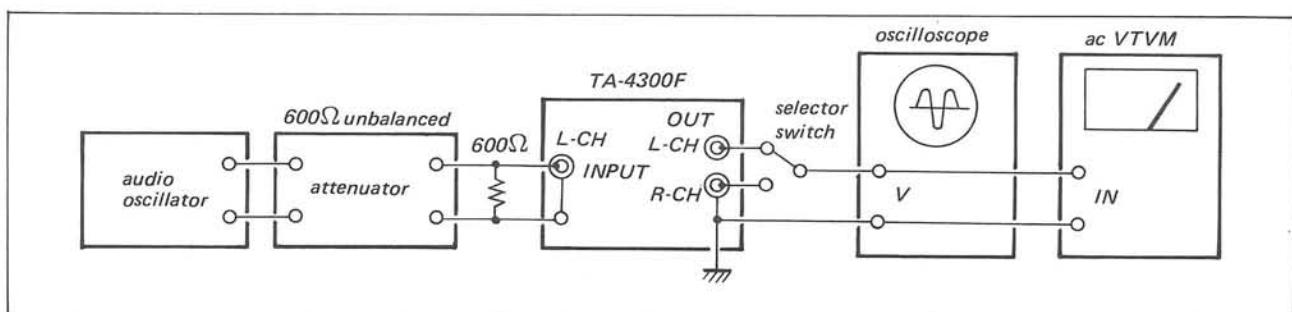

Fig. 3-3 Crosstalk measurement test setup
- With the equipment connected as shown in Fig. 3-3, feed a signal to the left channel INPUT jack as specified in Table 3-3 to obtain a 0 dB output.